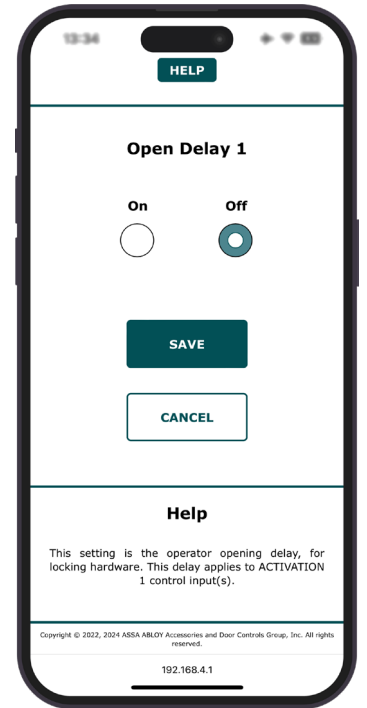

Figure 14
- For options that have a selectable setting, such as On or Off, buttons will be displayed, as shown in Figure 14.